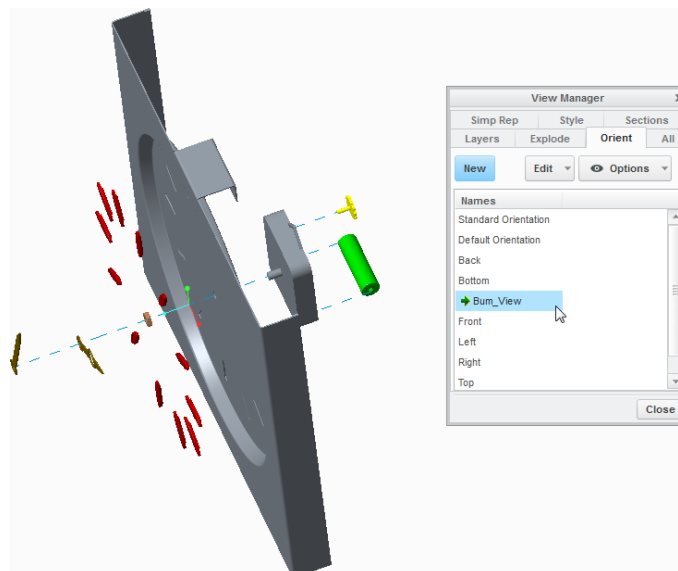

Figure 6: New Orient created (bum\_view).
1) In **View Manager** () , select **Orient** tab. Rotate your model in desired orientation, click **New** and give a name for the new view (Figure 6). Now you can use it as any other view (Back, Bottom etc.).